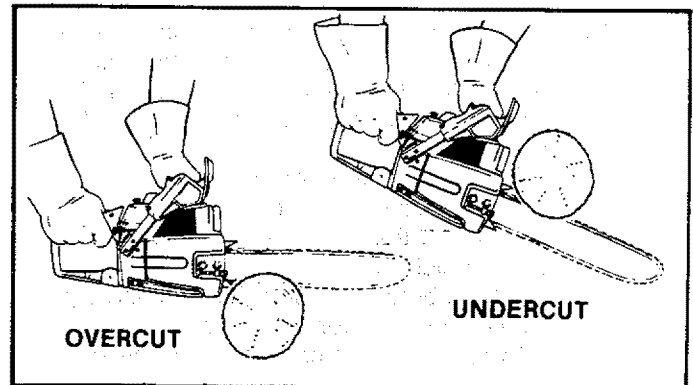

Figure 32
2. TYPES OF CUTTING USED Figure 32.